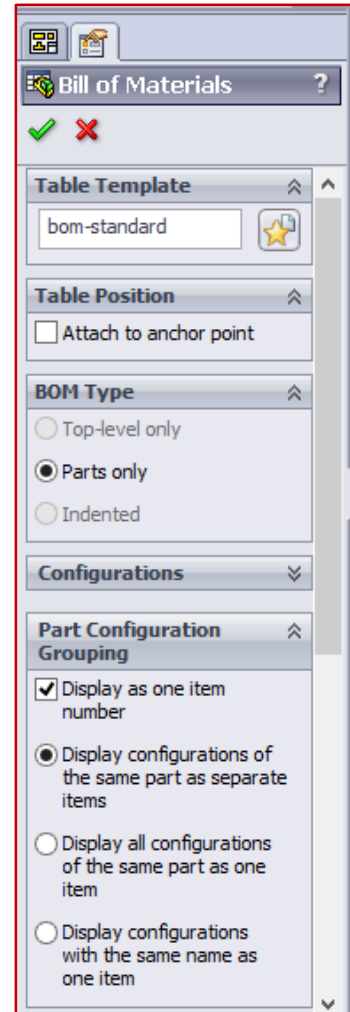

Figure 13.1 – Bill of Materials
- ✓ Click the skateboard assembly to open the BOM dialog box in Figure 13.1. Accept the default options.